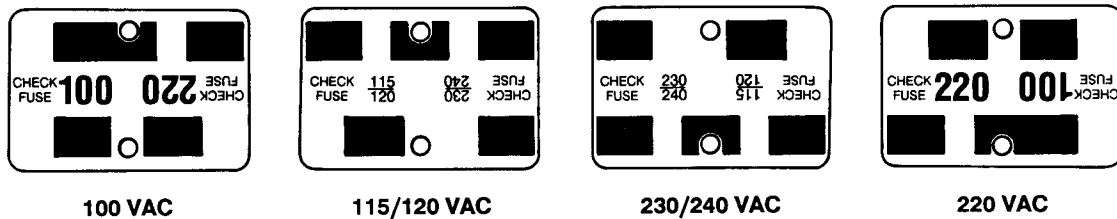

Figure 1-6. Main AC Power Voltage Selection
The power supply has been factory set at the appropriate voltage for the original user facility. If the unit is transferred to a facility where the voltage is different, it will be necessary to change the power supply setting (see Figure 1-6). The procedure to verify or change the power supply setting is as follows:
5. Four different voltage supply settings are available depending upon how the card is installed (see Figure 1-6). Reinsert the voltage supply card according to the desired voltage setting.